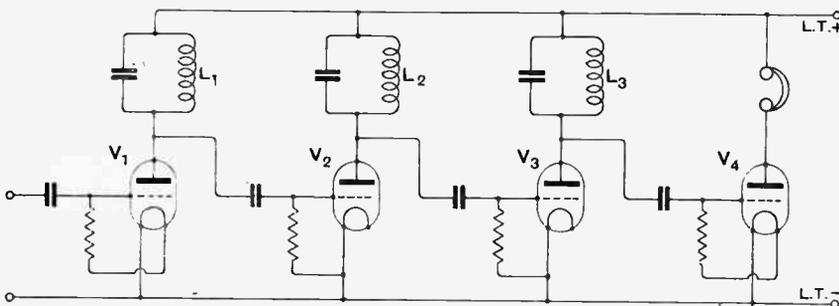

Fig. 1.—Intermediate frequency amplifier with "tuned anode" couplings.
In Fig. 1 is shown an arrangement on these lines, having a tuned anode input coil in series with the plate of the first detector, and two stages of intermediate frequency amplification coupled together on the same principle. There is, of course, no reason why three I.F. amplifiers should not be used, following standard practice.
Fig. 1.—Form of voltage amplification curve of double note amplifier under following conditions: Detector valve "R" followed by 3:1 transformer (primary 40 henries); first amplifier, D.E.5, followed by 4:1 transformer (primary 15 henries).
Fig. 2.—Output intensity curve (1) of arrangement indicated in Fig. 1 compared with curve (2) of variable characteristic amplifier under the following conditions: Detector D.E.5B resistance or choke coupled to D.E.5 with 2:1 transformer (primary 225 henries). The shaded area represents low tone loss of double transformer amplifier
transformer. Now let us compare the curves for two such amplifiers. The lower tones must be supplied electrically to a loud-speaker to be reproduced acoustically. The acoustic output depends upon the square of the ordinates of these curves, and to make the comparison more readily grasped Figs. 1 and 2 are given. With a loud-speaker of reasonable characteristics, can it seriously be expected that curve 1 (Fig. 2) will give the same acoustic result as curve 2? The answer must be "No." There is, however, an exception—the inevitable one which proves the rule to be man-made—when the loud-speaker has a *very weak lower register*. In this case the lack of sensitivity in the bass register is so great that no appreciable difference in quality would be detected with (1) an amplifier of uniform characteristic, (2) an amplifier which cuts off at, say, 400 cycles. We are, therefore, in a position to make a definite statement as follows: If there is no detectable difference between the output of a loud-speaker under the two preceding conditions, it follows that the loud-speaker has a defective lower register. Should the reader meet with this misfortune, I think he ought to endeavour to construct at least a temporary loud-speaker with a good lower tone register. By following the principles set forth in recent publications,¹ there should be no difficulty in evolving some form of diaphragm instrument with a good bass. The results would give some satisfaction and would be an attempt to arrive at the truth—a very elusive attribute in this commercial era.